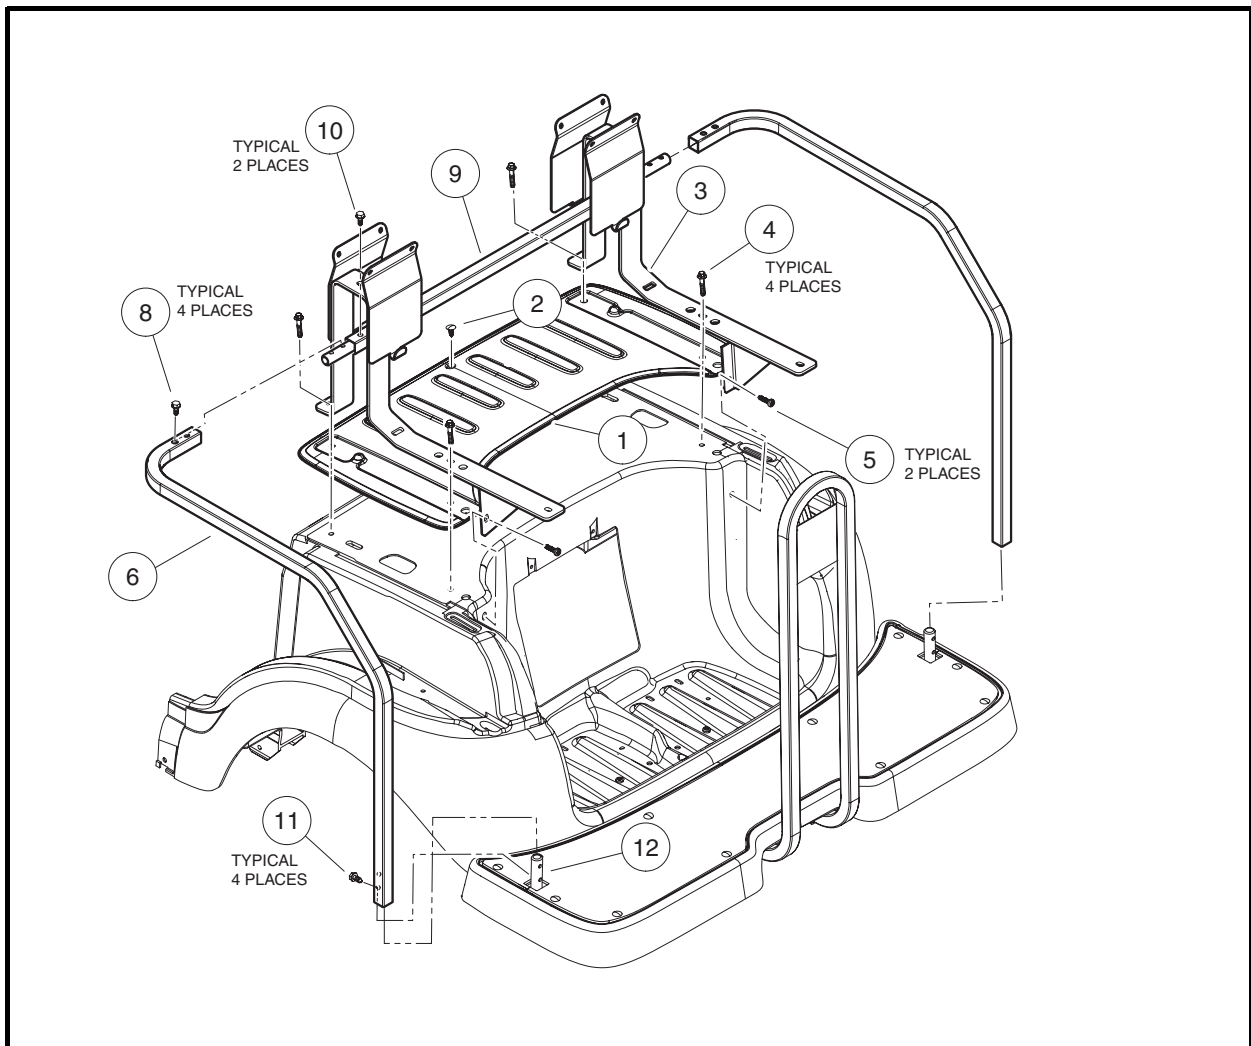

Figure 4-9 Seat Supports (Four-Passenger Vehicles)
1. Remove screws (8 and 11) securing the rear hip restraints (6) and remove the hip restraints from the vehicle (**Figure 4-9, Page 4-13**).
2. Remove the screws (5) and bolts (4) from the seat support (3) and remove the seat support from the vehicle.
2. Tighten bolts (4) to 53 in-lb (6 N·m). Tighten screws (5) to 44 in-lb (5 N·m). Tighten bolts (8 and 11) to 124 in-lb (14 N·m) (**Figure 4-9, Page 4-13**).
3. Remove screws (8 and 11) securing the rear hip restraints (6) and remove the hip restraints from the vehicle (**Figure 4-9, Page 4-13**).